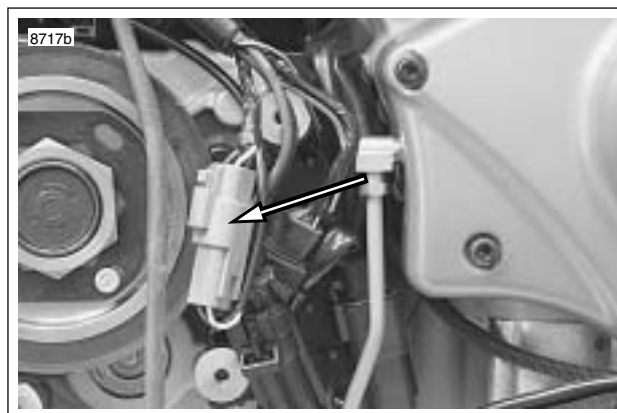

Figure 7-95. Vehicle Speed Sensor Connector [65]
7. See Figure 7-95. Connect vehicle speed sensor connector.